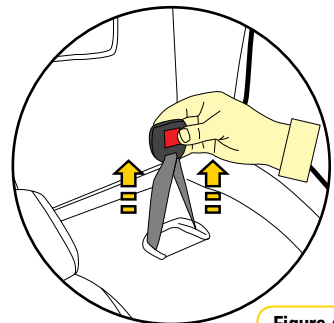

Figure 4
- Step 5:** Lift the buckle to verify the buckle height (refer Figure 4) try to keep the buckle height "low".